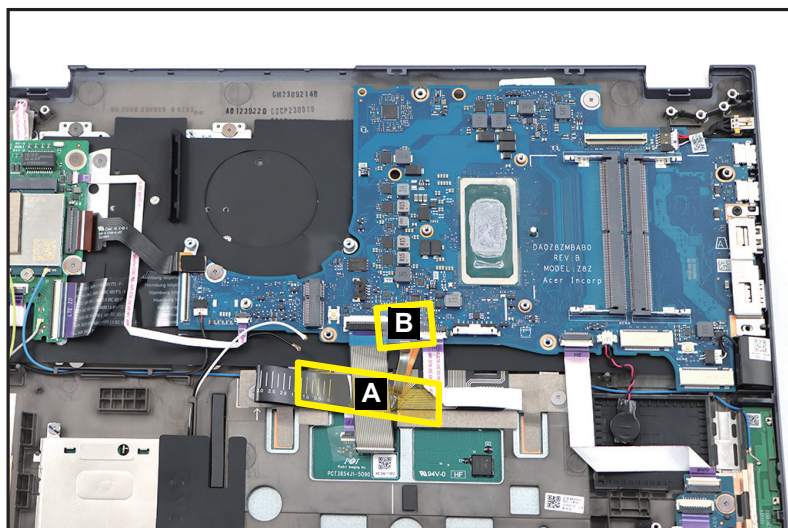

Figure 1-54. Mainboard Removal
1. Detach the kapton tape (A) and the mylar (B) securing the cables in place (Figure 1-54).